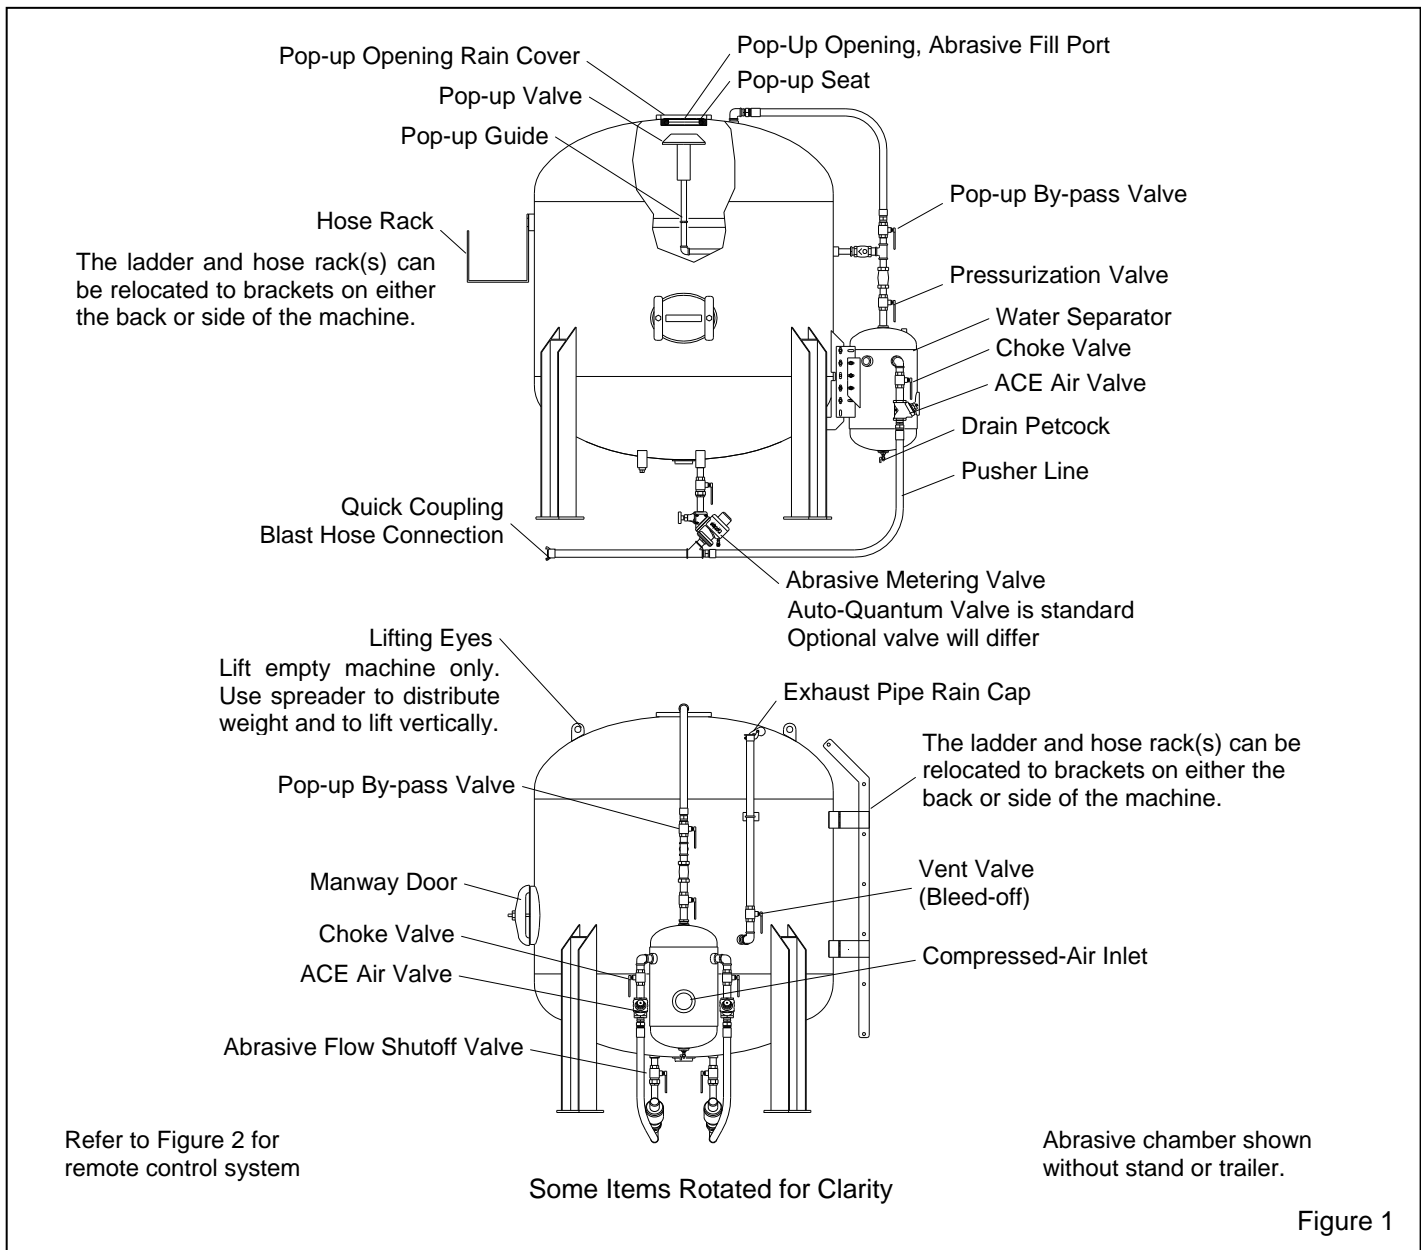

Figure 1
1.3.1 Typical components and call outs are shown in Figure 1. Big Clem bulk blast machines come in three sizes; 60, 120 and 160 cu. ft. capacity. Each size is available as a stationary, yard-towable and highway-towable (highway towable models include fenders, lights and electric brakes). Refer to Figure 2 for remote control system.